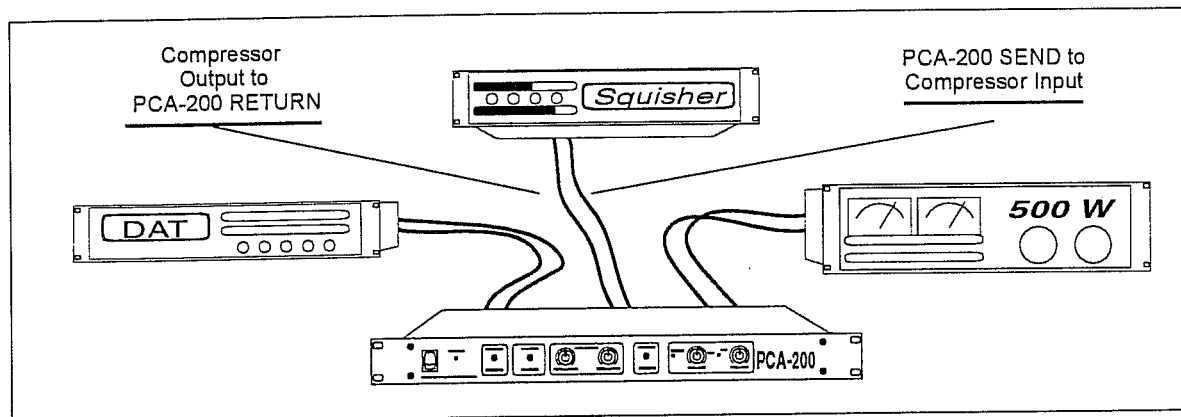

Figure 3-2: Using External Processing in PROCESS LOOP
An alternate configuration, using the PCA-200 in a *send/return loop*, is shown in Figure 3-2 and discussed a little further on in this section.
**Process Loop** The **PROCESS LOOP** switch allows you to route the synthesized bass (*not* your source music) through external processing equipment connected to the **PROCESS LOOP** jacks on the back of the unit as shown in Figure 3-2. The **OUT** position bypasses the **PROCESS LOOP** jacks and passes the bass signal to the PCA-200 **DRIVE** circuit.